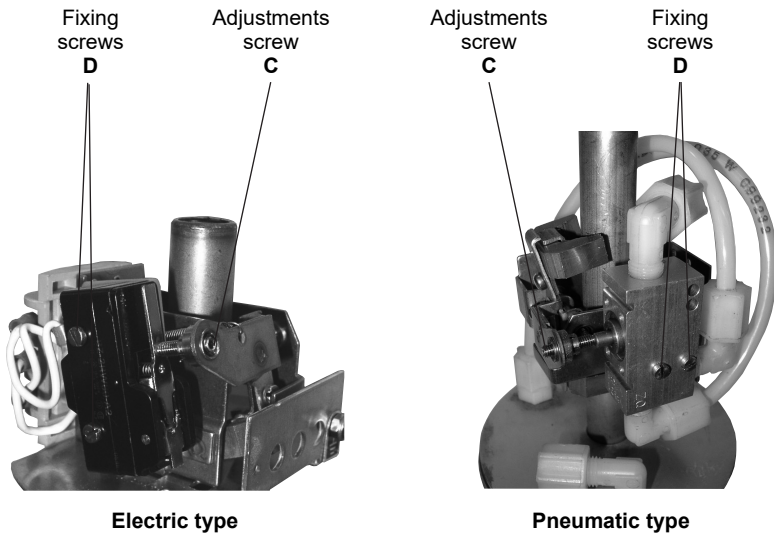

Fig. 7 - Electrical and pneumatic switches
This operation is performed by changing the position of the switch mechanism. In the devices fitted with one or two switches of types 1, 2 and 3, it is possible to move the mechanism/s up to 50 mm upwards when the device is fitted with only one switch mechanism and up to 25 mm when it is fitted with two mechanisms. This operation is required when the switching values are to be raised without modifying the process attachments. In order to move the mechanism, the fastening screw (Fig. 7) has to be loosened in order to enable the switch to run freely along the enclosing tube.
- 2 - Loosen the plate locking screw (only for the lower mechanism) and the fixing screw (see Fig. 7) and extract the switch mechanism from the enclosing tube.
- 2a - Mercury switch (see Fig. 7)
- 2 - Remove the locking screw "D" (Fig.7) and then the valve.
Check the alignment between the adjusting screw "C" and the microswitch actuating lever (Fig. 7). Make sure that the microswitch switches properly, by manually actuating the magnet carriage.